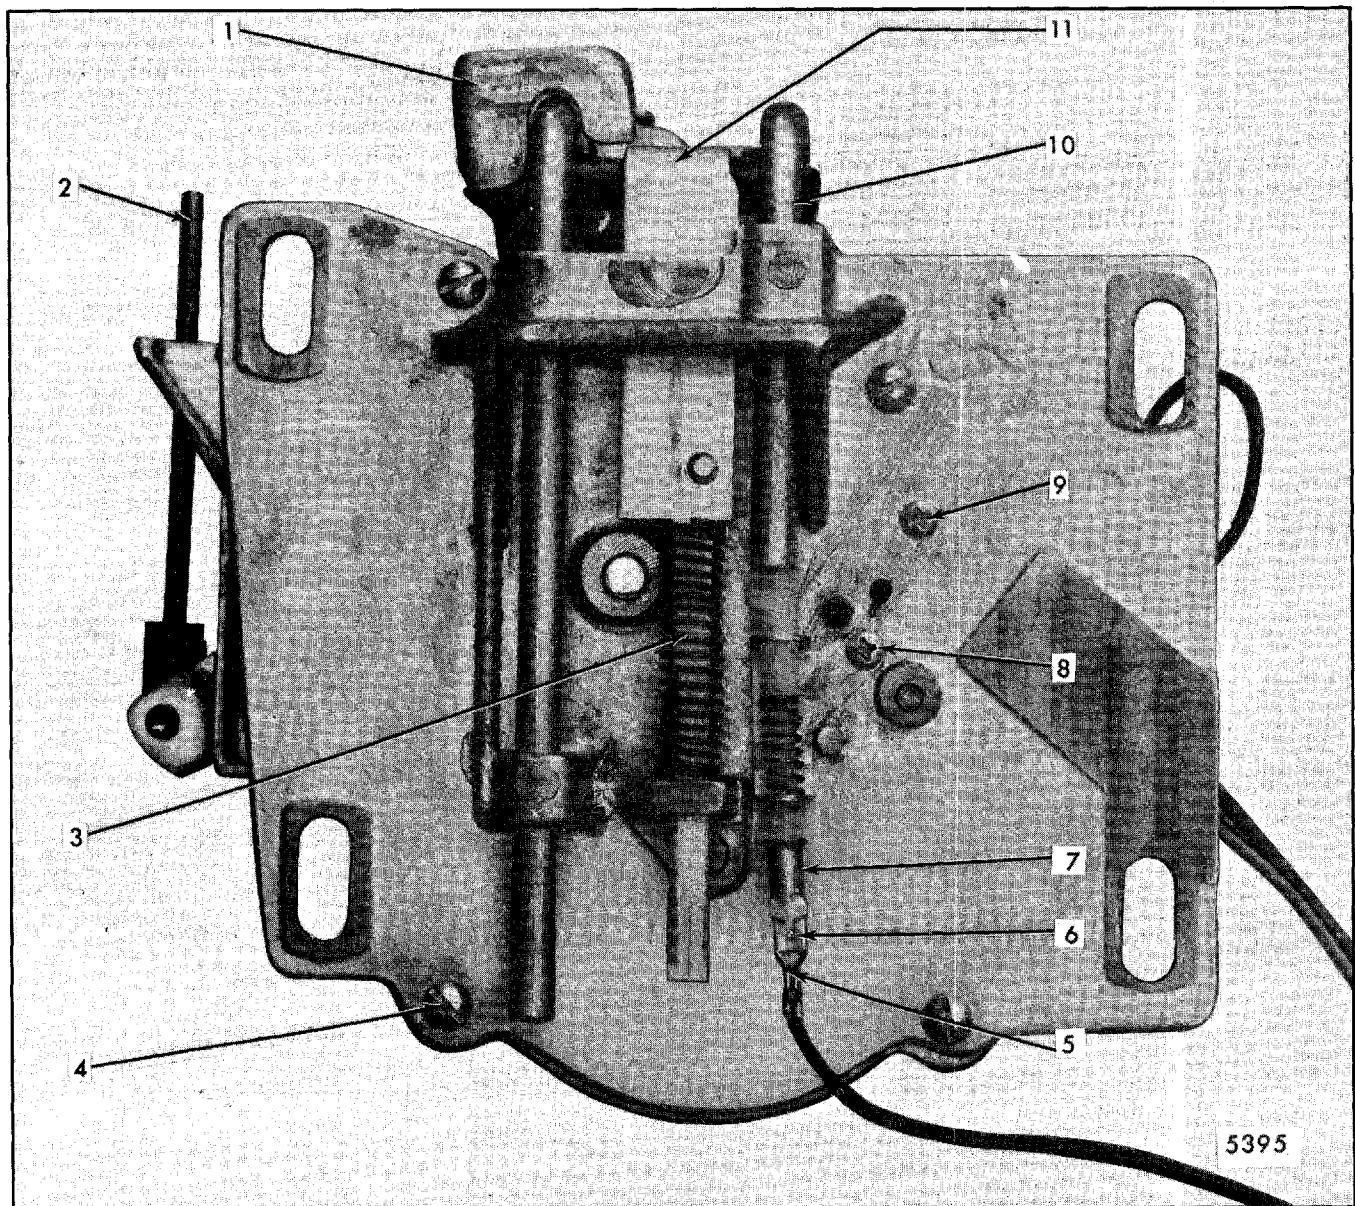

Fig. 7-41-Closing Unit Rear View
2. Remove actuator switch retaining screw from rearward side of unit cover (Fig. 7-41).
NOTE: To remove, depress terminal locking barb with pointed instrument (Fig. 7-41).
2. Insert plunger into plunger slot at upper edge of cover assembly. Slip plunger spring onto narrow neck of plunger (Fig. 7-41) and insert narrow neck into lower guide of cover.
6. Thread link and cover assembly onto long leg side of striker (Figs. 7-41 and 7-42).